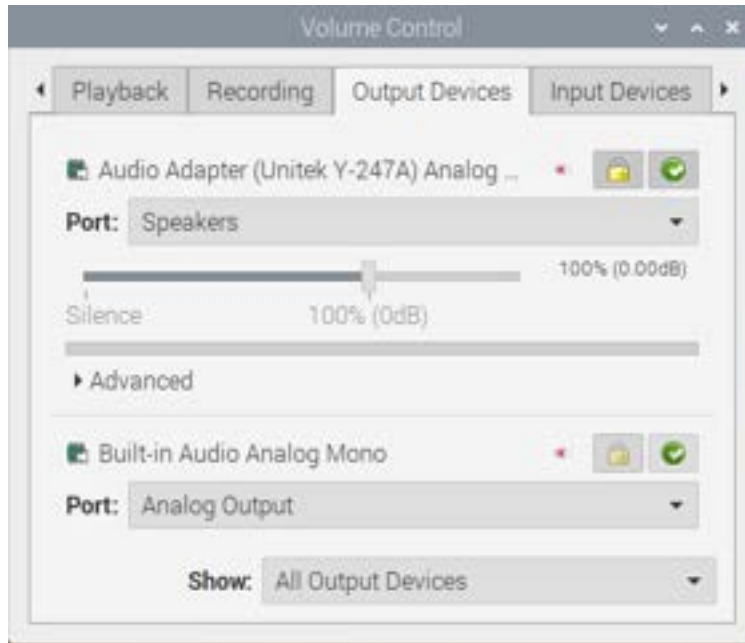

Figure 3: PulseAudio
6. Here, make sure the output is set correctly, and ensure that it is not muted. Check all the tabs to ensure everything looks correct. Use Figure 3 as a reference.